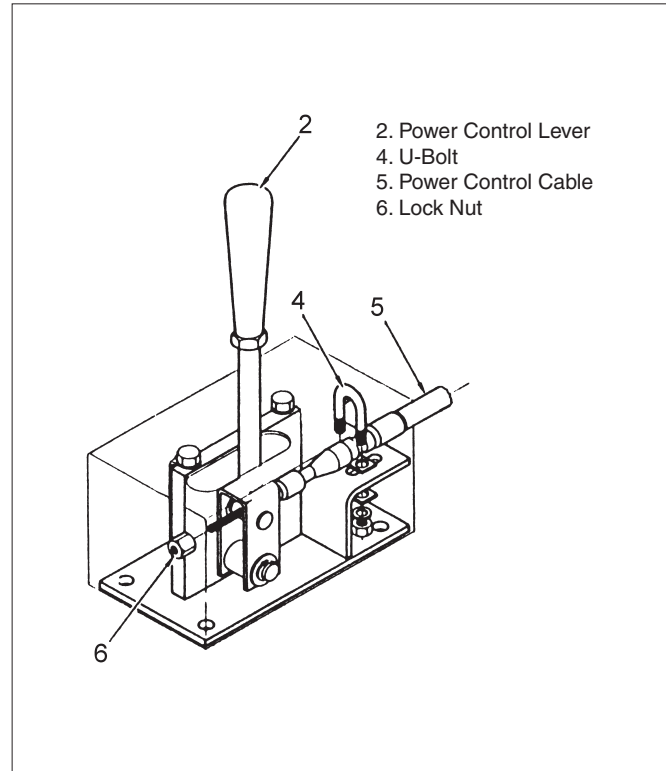

Figure 16 - Control Cable Adjustments
Check winch control lever (cable controls). See Figure 16.	Use SAE 30 oil on the linkage if needed. Check that the control cable and control housing are fastened correctly. Tighten U-bolts if required.
A. See Figure 16. Make sure the positions of the power control lever (Item 2) are the same as the position indicators on the control housing. Remove the two capscrews and raise the cover. Loosen the U-bolt (Item 4) that holds the power control cable (Item 5) in the housing to adjust the control lever.